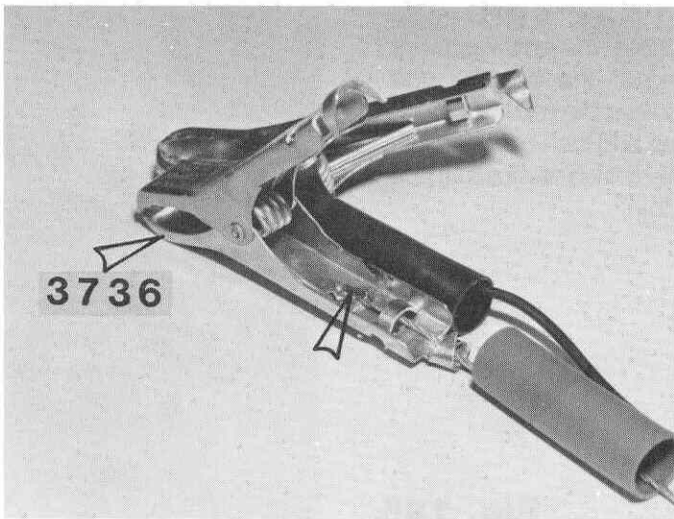

Fig. 187
□ **Fig. 187** In Bag #8-6 is the #3736 battery charge cord. We'll have to solder the ends to the wires. The arrows, in the photo, are pointing to the positive (+) connection. This is the silver appearing wire, not the black wire. There is a clear plastic coating on this wire, which is very hard to see. Take your Xacto knife and scrap off this clear coating on the end for soldering. Slip the red tube on the wire. Now solder the wire to the clip as shown. If you have a small soldering iron, you'll have to hold it on awhile longer to heat up the clip. Now solder the black negative (-) wire to the other clip using the black tube. In the back of these instructions is a page on charging batteries. Read it carefully and charge the battery pack. Also make sure the batteries in your radio transmitter are charged.